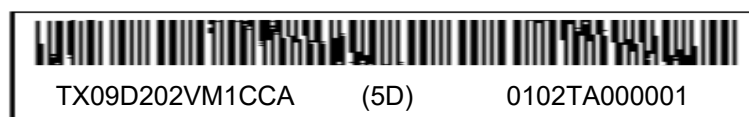

Fig. 14.2
- 4) The location of the lot mark is on the PCB shown in Fig. 14.2.